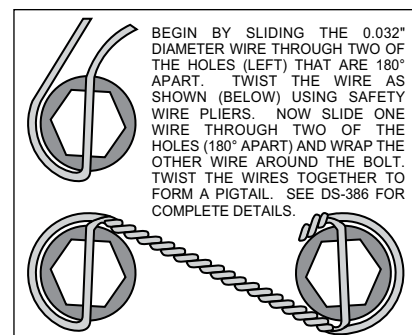

Figure 5. Safety Wire Diagram
- Make sure this is the correct kit to fit the axle housing flange, not necessarily the rear end make. Many times after market manufacturers put a different make of axle housing flange on the stock rear end housing (see Figure 5). Example; Big Ford rear ends with Olds-Pontiac flanges, therefore, an Olds-Pontiac rear disc brake kit would be the correct kit to order. Also, shock clearance may be a problem. They may have to be modified and/or relocated to clear the Wilwood kit after final assembly.
- With the larger I.D. side of the rotor (3) facing away from the hat (2), bolt rotor (3) to hat (2) through the backside of the rotor using washers (4) and bolts (5). Apply red *Loctite*® 271 to the bolt threads and torque to 155 **in-lb** using a criss-cross pattern. For an added measure of security, the bolts may be safety wired using standard 0.032 inch diameter stainless steel safety wire as shown in Figure 5.. Please refer to Wilwood's data sheet DS-386 (available at [www.wilwood.com/Pdf/DataSheets/ds386.pdf](http://www.wilwood.com/Pdf/DataSheets/ds386.pdf)) for complete safety wire installation instructions.